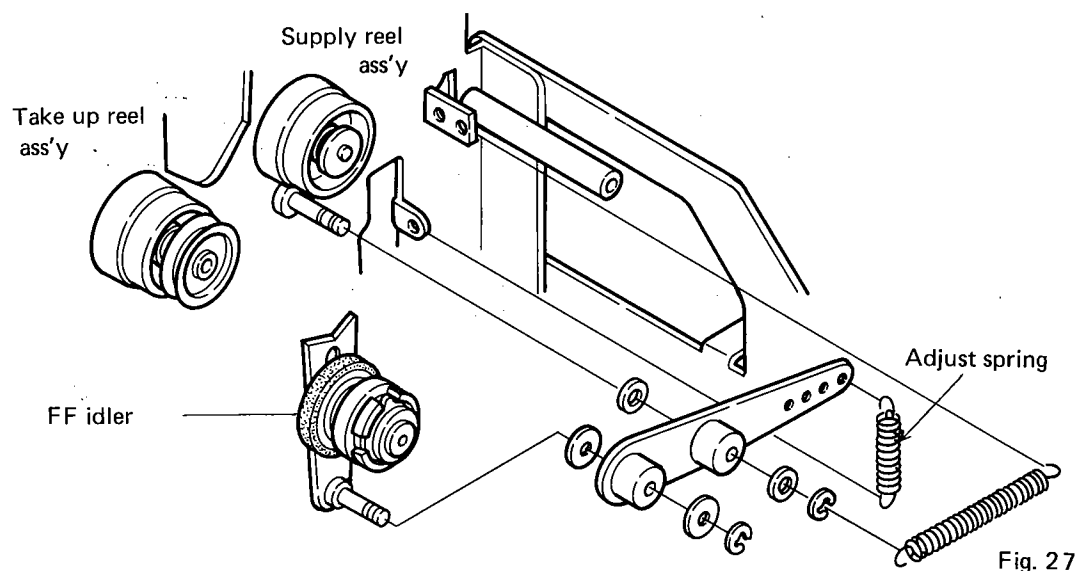

Fig. 27
10.5 FF/REW TRANSMISSION (Photo 7, 8, Fig. 27)
2. If adjusting the spring does not correct the problem, replace the FF idler. (Fig. 27)